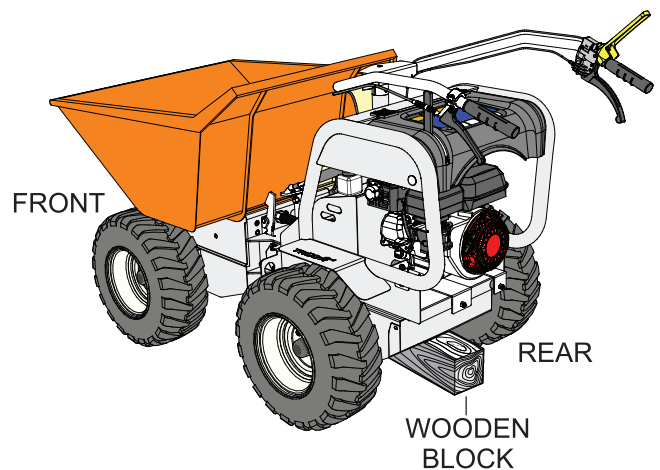

Figure 52. Wood Block Placement
1. Lift the Mini Dumper and place wooden blocks (Figure 52) at the front and rear of the Mini Dumper. Place blocks so that the front and rear wheels can rotate freely just above the ground.